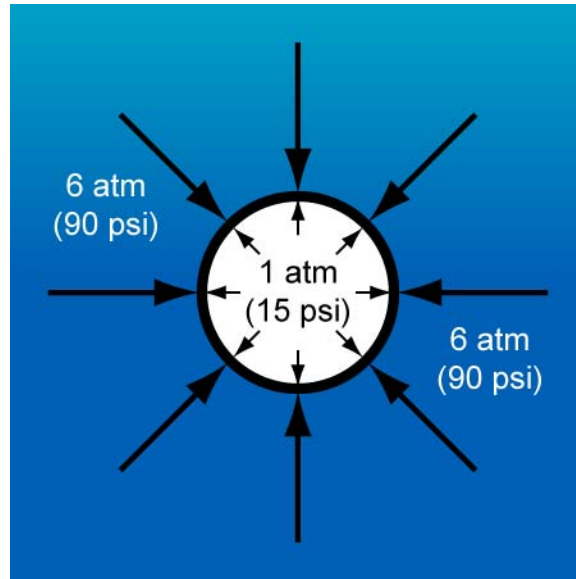

Figure 7: A Container Under Hydrostatic Pressure at 50 Meters
- When submerging a water-tight container in water, pressure differences between the inside and outside create mechanical forces that the container must withstand. For example, the container at 50 meters in Figure 7 must resist the difference between the outside pressure of 6 atm and the inside pressure of 1 atm, or a net pressure of 5 atmospheres or 75 psi.